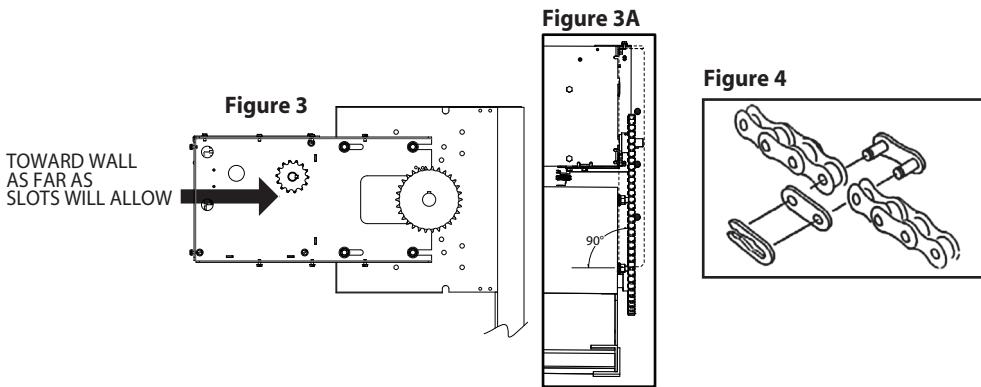

Figure 2
- 7) Slide open ended slots of frame under flat washers installed in step 5. **FIG. 2.**
- Locate other frame slots over remaining two(2) carriage bolts and bring frame against headplate.